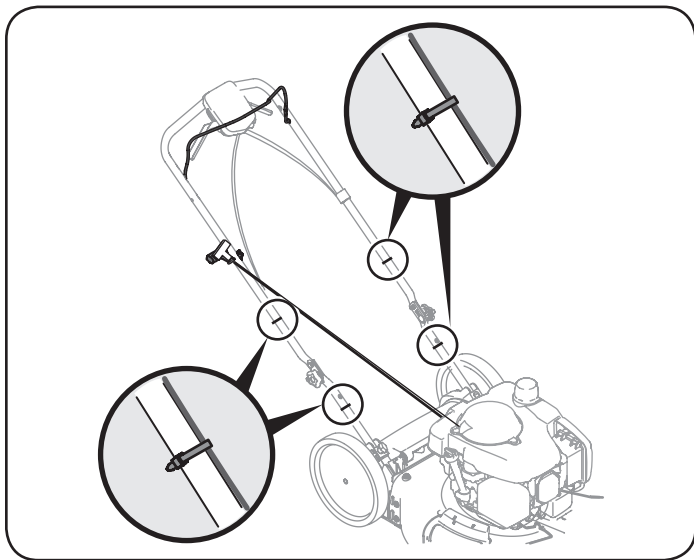

Figure 6
6. Use cable ties provided to secure blade control and drive cables to lower handle as shown in Figure 6.